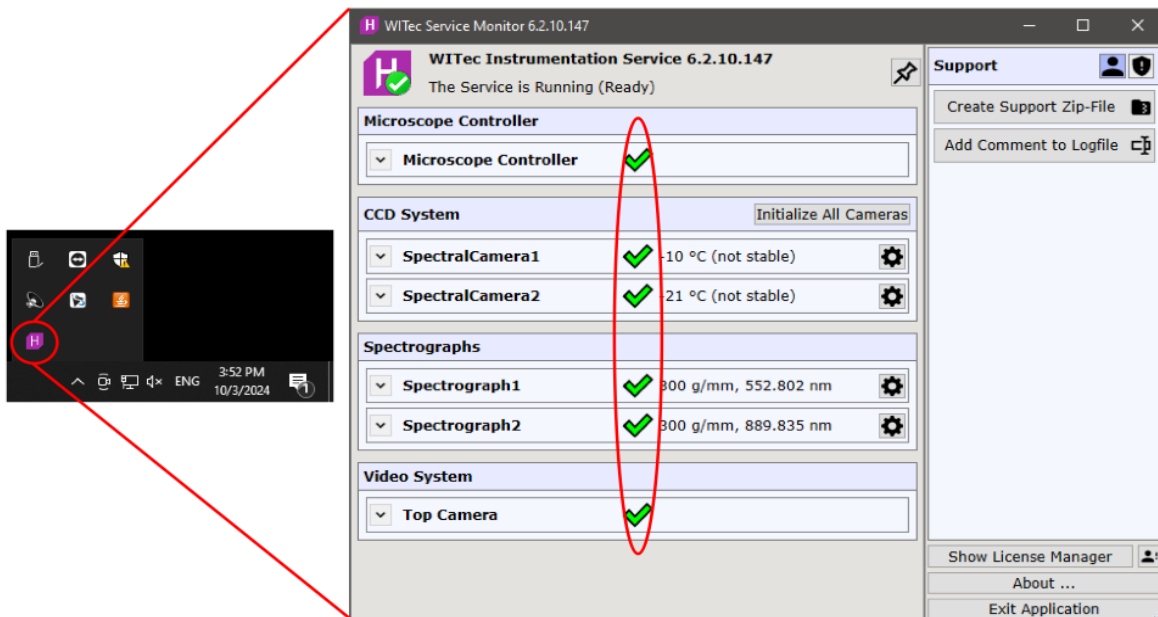

Figure 3
- 4) Click on "H" logo (highlighted by red circle) at the quick load zone of Windows 10 (left panel in Fig 3) to show the "WITec Service Monitor" page (right panel in Fig 3), make sure all six items are checked with green check marks (right panel in Fig 3) below before moving to next step.
- 7) Spectral Camera status is no longer monitored in **Message**, it is monitored in WITec Service Monitor as shown in Fig 3: